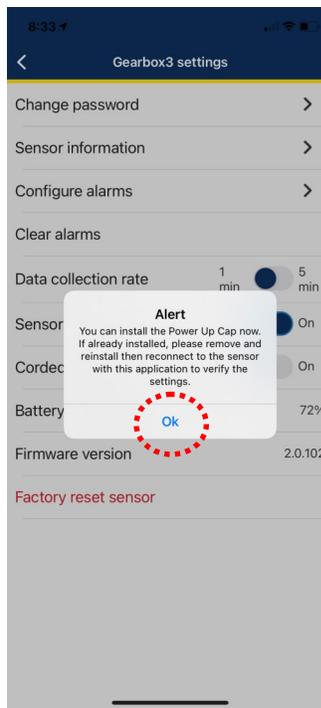

Figure 3
4. An Alert window will appear, click **Ok** (see figure 3).